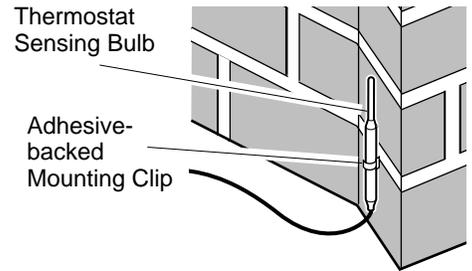
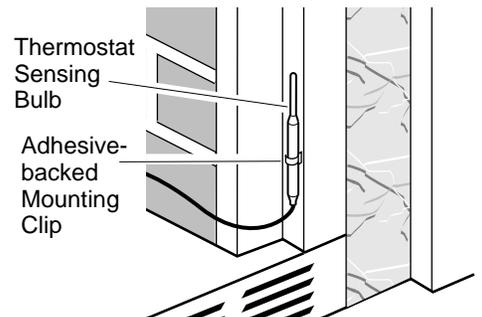
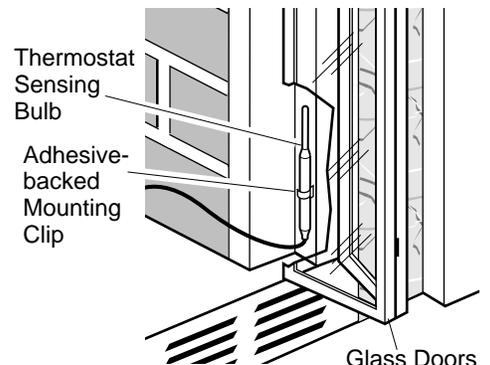

Figure 49 - Locating Thermostat Sensing Bulb on Masonry Fireplace
Figure 50 - Locating Thermostat Sensing Bulb on Factory-built Metal Fireplace
Figure 51 - Installing Thermostat Sensing Bulb behind Glass Doors
3. The thermostat sensing bulb may be located to the lower right front side of fireplace. Determine location of sensing bulb, but do not mount sensing bulb until step 5. If you have a masonry fireplace, see Figure 49 for location. If you have a factory-built metal fireplace, see Figure 50 for location. If your fireplace has glass doors, position sensing bulb directly behind door gap on right bottom side (see Figure 51).